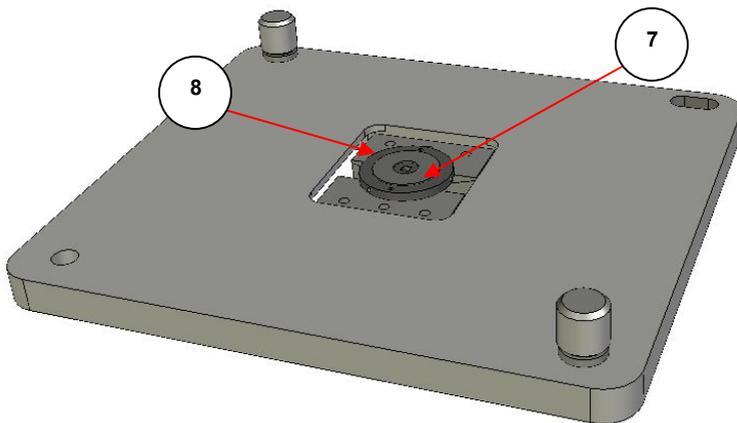

Fig 3 – SCF Golden Gate™ Top-Plate With Pressure Chamber Removed Showing Graphite Gasket Centrally On The Diamond Puck
Finally, partly slacken the middle pair of screws until all 6 screws have been loosened. Now, proceed to remove all 6 screws and washers to remove the pressure head assembly and gain access to the gasket (7). A high clamping force is needed for sealing of the graphite gasket (7) (see Fig 3) between the pressure chamber (6) and diamond/tungsten carbide puck (8). If the temperature has exceeded 60°C during
Take a new graphite gasket (7) and carefully position it centrally over the exposed diamond surface of the diamond/tungsten carbide puck (8). (See as Fig 3.) Take the top section pressure chamber (6) and place it carefully over the gasket (7) such that the six screw holes are in alignment with their corresponding screw hole in the stainless steel top plate (1). Using a normal Allen key (supplied), first screw all six clamping screws with their load spreading washers (9) down until the cap heads of the screws are just clear of the top section pressure chamber (6), without applying any clamping force at this time.